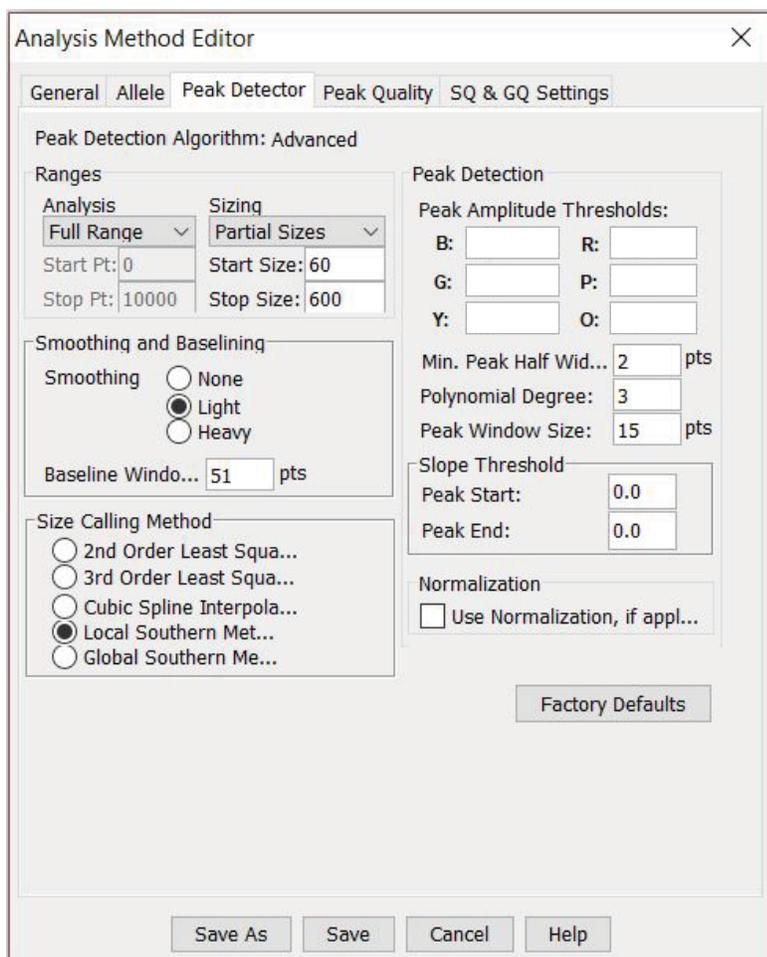

Figure 24. The GeneMapper® ID-X 'Peak Detector' tab.
- Select the 'Peak Detector' tab (Figure 24). You will need to optimize these settings. In-house validation should be performed.
9. Select the 'Peak Detector' tab (Figure 24). You will need to optimize these settings. In-house validation should be performed.